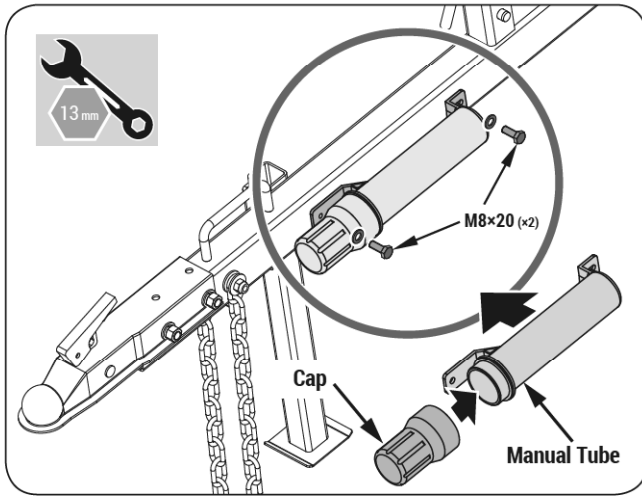

Figure 10a
1. Remove the cap from the manual tube. Align the holes in the manual tube with the holes in the tow bar. Insert and tighten bolts and washers. (See **Figure 10a.**)